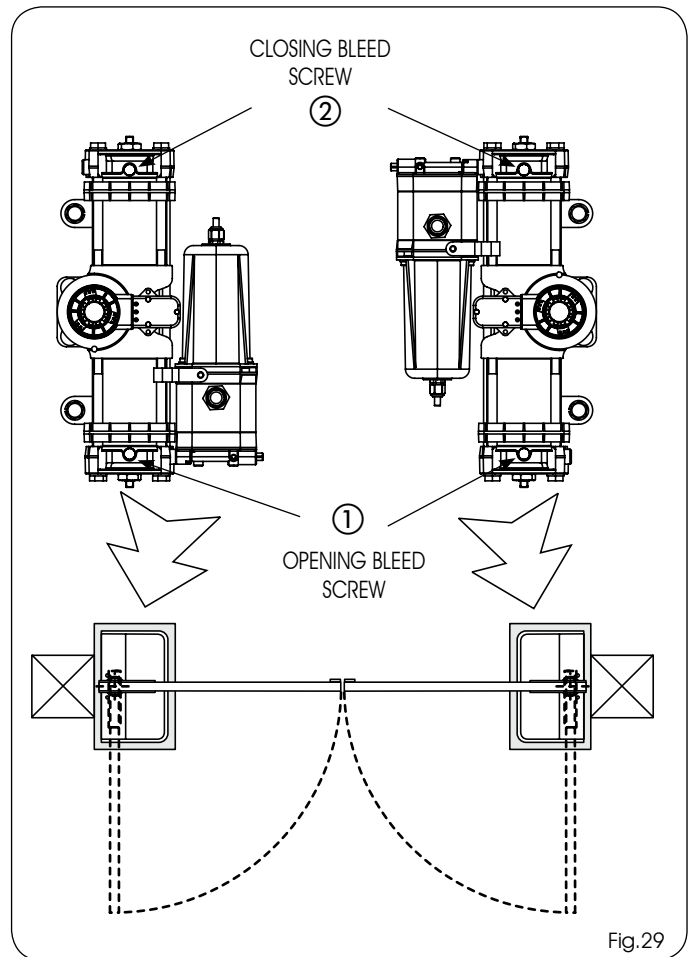

Fig.29
- 2) While the leaf is moving, loosen the opening bleed screw (Fig.29 ref.①)
- 6) While the leaf is moving, loosen the closing bleed screw (Fig.29 ref. ②)